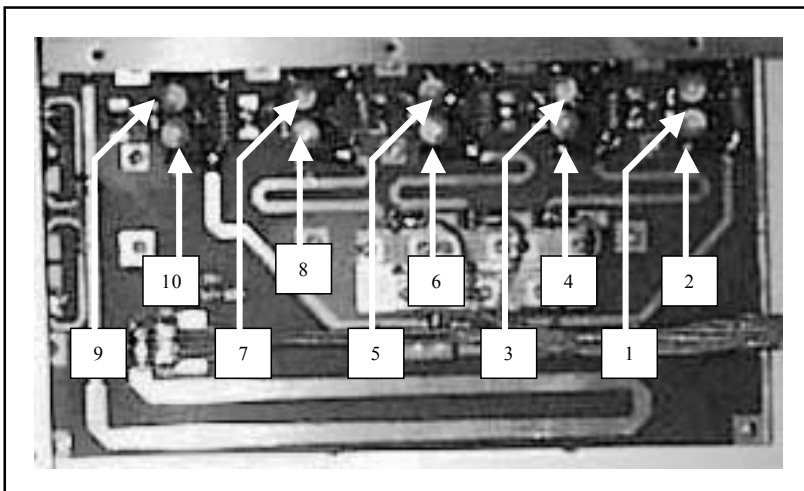

Figure 4
- 6) Adjust the variable capacitors (1) and (2), relative to the first amplifier output (Figure 4), to maximize the power level measured by the coupler's instrument.